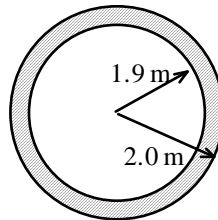

Figure 3. (not to scale)
- 3) A stainless steel spherical vessel of dimensions shown in Fig. 3 is subjected to an external pressure of 0.5 MPa and an internal pressure,  $p_i$ .